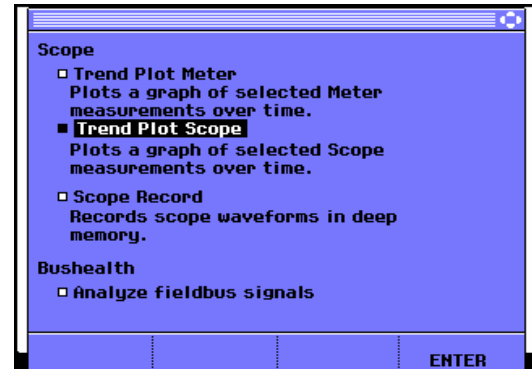

Figure 17. Recorder Main Menu
- 1  Open the **RECORDER** main menu. (See Figure 17.)